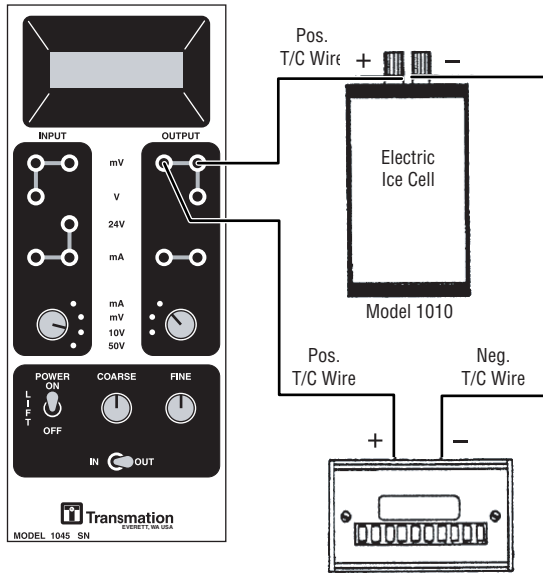
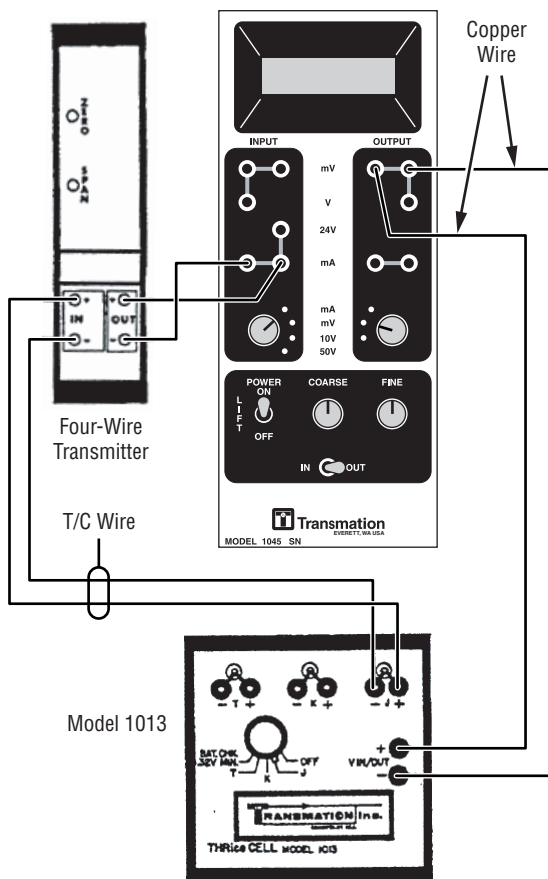

Figure 2-10a. Using the Model 1045 as a Temperature Compensated mV Source to Calibrate a T/C Indicator
Figure 2-10b. Using the Model 1045 to Calibrate a T/C Transmitter
2. Make the necessary connections between the Model 1045, the ice cell and the T/C device. Figure 2-10a shows the connections between the Model 1045, a Transmation Model 1010 Ice Point Reference Cell and a T/C indicator. Figure 2-10b shows the connections between the Model 1045, a Transmation Model 1013 Ice Point Reference Cell and a T/C transmitter. In Figure 2-10b, the Model 1045 is being used to provide a T/C signal (type J) to the transmitter and measure the transmitter's resulting mA output. The Model 1013 is recommended for applications with type J, K and T thermocouples. The Model 1010 is recommended for all other types of thermocouples. Consult the appropriate instruction manual for detailed information (I.S. #100720-900 for the Model 1010 or I.S. #100726-900 for the Model 1013). Note that the red T/C lead is negative and the color-coded T/C lead is positive.
3. Set the Model 1045's Output Range Switch to mV, and, if monitoring an input as well (as shown in Figure 2-10b), set the Input Range Switch for the appropriate range.
5. Monitor the mV output on the Model 1045. If calibrating a thermocouple indicator such as the one shown in Figure 2-10a, a display is generally provided for monitoring the temperature. If calibrating a transmitter, the transmitter output (normally mA) can be monitored on the Model 1045.